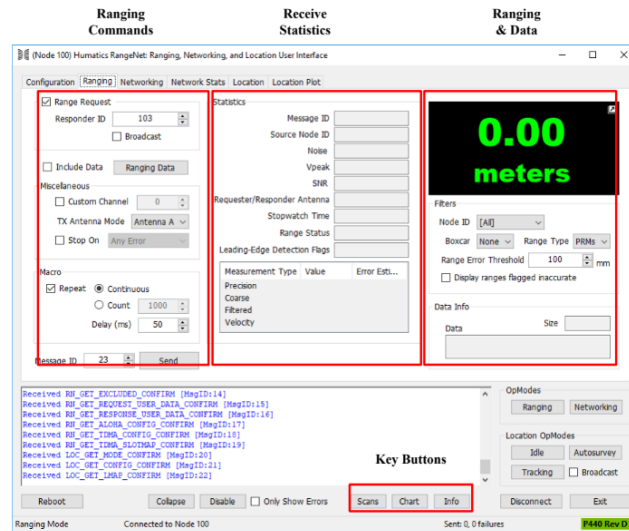

Figure 7 RangeNet Range tab layout.
3. **Testing Ranging Performance:** Once all node IDs have been assigned, test the ranging performance by using the Ranging tab. Change the responder ID to the desired radio ID and click on "Send" to send a request to the respective radio to test the signal. Refer to Figure 7 (RangeNet Range tab layout) for an example of the Ranging tab.